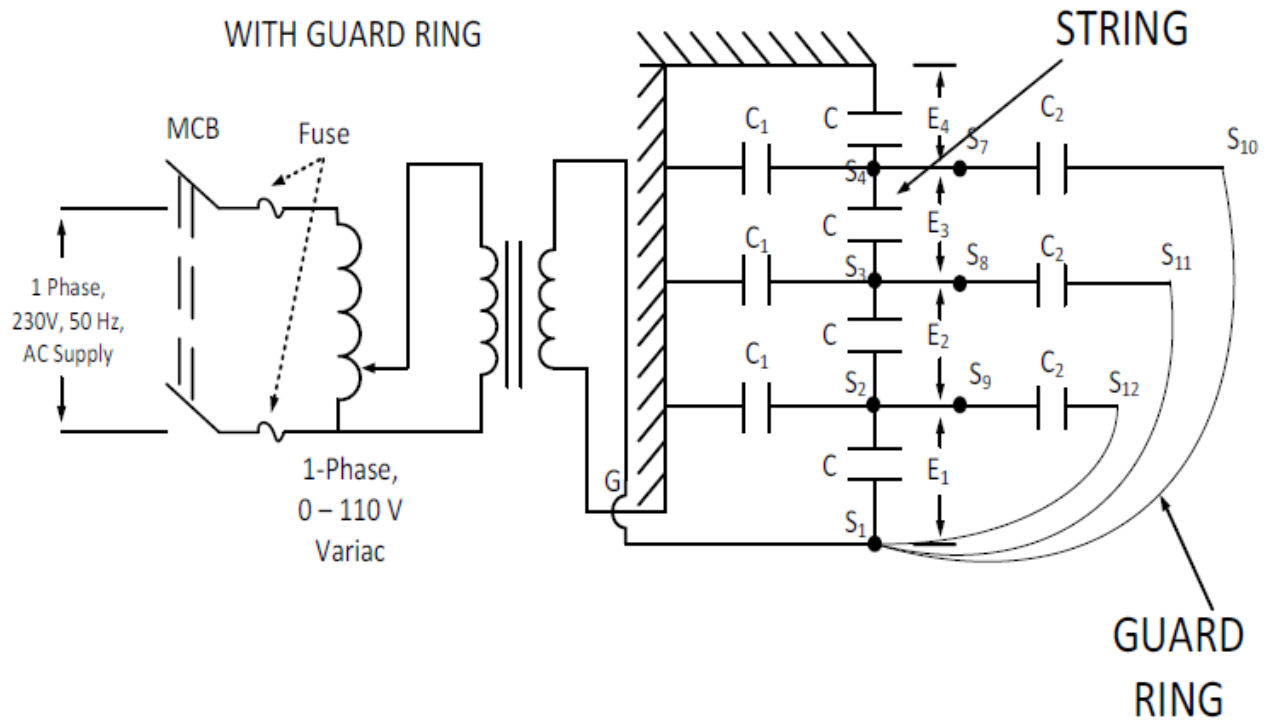

Fig 4: With Guard Ring
1. Connect the circuit as per the Fig. 4. From one of the Variac output terminals connect to terminals S1 and other Variac output terminal to G. To connect the guard ring to the string, connect the terminals S4-S7, S3-S8, S2-S9 and also make connections between S1-S10, S1-S11 and S1-S12